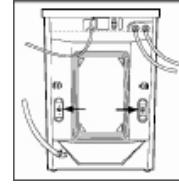

Fig. 1
- Remove all packaging and inspect the machine for damage. If machine appears damaged, immediately Thor Service at (800) 842-4138.
- **Important!** The floating internal drum of the washer dryer is secured with two packing bolts located on the back of the machine's cabinet (Fig.1). These bolts hold the drum in place during transit but must be removed prior to operation. Before installation, remove the two packing bolts using a standard screwdriver. It is normal for the bolts to appear slightly bent or scratched. The bolts are made of soft metal which offers better shock absorbing properties.